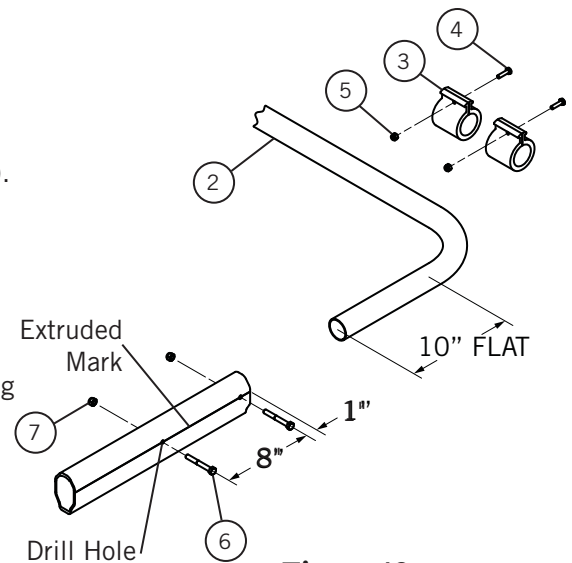
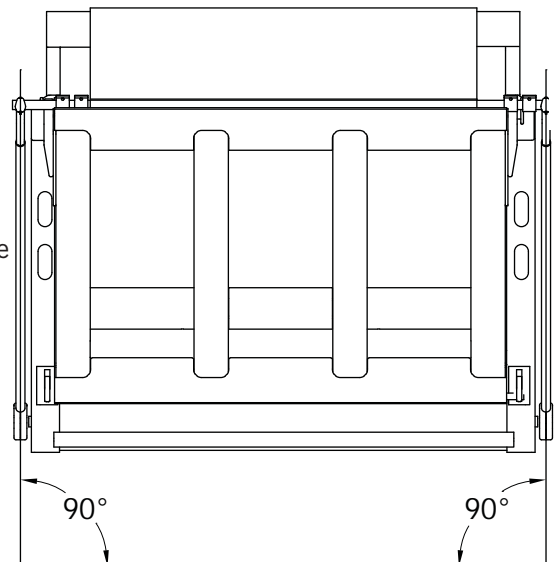

Figure 10
Figure 11
- 1) Roll out tarp (1) in bed of truck with the pocket at the rear of the truck.
- 2) Wrap the end of the tarp with the pocket around cross connecting arm (2) and attach using the hose clamps 3" (8).
- 3) Slide 2 rubber bumpers (3) onto each side of the cross connecting arm (2).
- 4) See **Figure 10**. Insert 1/4-20 x 1 hex bolt (4) into each rubber bumper and attach 1/4-20 Nylon hex jam nut (5).
- 5) Place cross arm (2) on the tail gate and center, lift one swing arm up to leg of cross connecting arm (2) at 10" up leg (start of bend) mark swing arm and cut mark.
- 7) Lift one swing arm and insert cross connecting arm (2) into swing arm.
- 9) With the cross arm (2) resting on the tail gate and leg inside swing arm 10" drill a .316" (O drill) hole through swing arm and the tube as shown along extruded mark. Secure with 5/16-18 x 2 1/2" hex bolt (6) and 5/16-18 nylon hex nut (7)
- 10) See **Figure 11**. Position swing arms to be parallel with the bed.
- 11) Wrap tarp (1) around cross connecting arm (2), center and secure with four hose clamp 3" (8).
- 12) Reposition rubber bumpers (4), two to sit on tailgate, two to line up with the end plates of the tarp housing and tighten bolts.